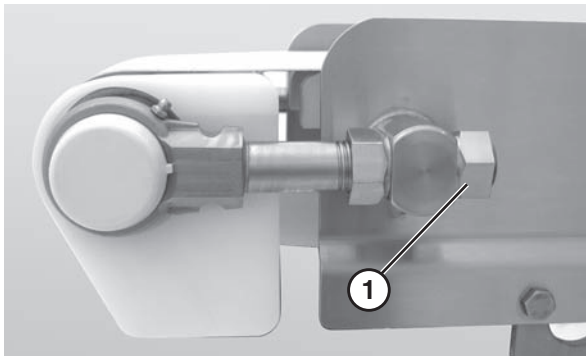

Figure 50
1. Loosen the back nuts (**Figure 50, item 1**) on both sides of the idler tail shaft.